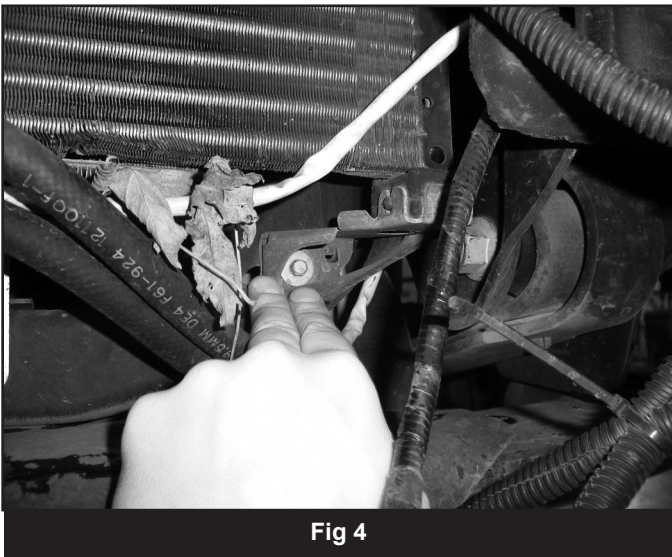

Fig 4
- Loosen but do not remove all four leaf spring mounting bolts. On the front, the A/C condenser brackets will need to be removed to gain access to the bolt (Fig 4). Remove the brackets from the core support and save along with the mounting bolts. Note: The factory uses very strong Loctite on the leaf spring bolts. In most cases heat will be needed to loosen the nuts (Fig 5). Take extra care when heating the nuts and keep a fire extinguisher near by.